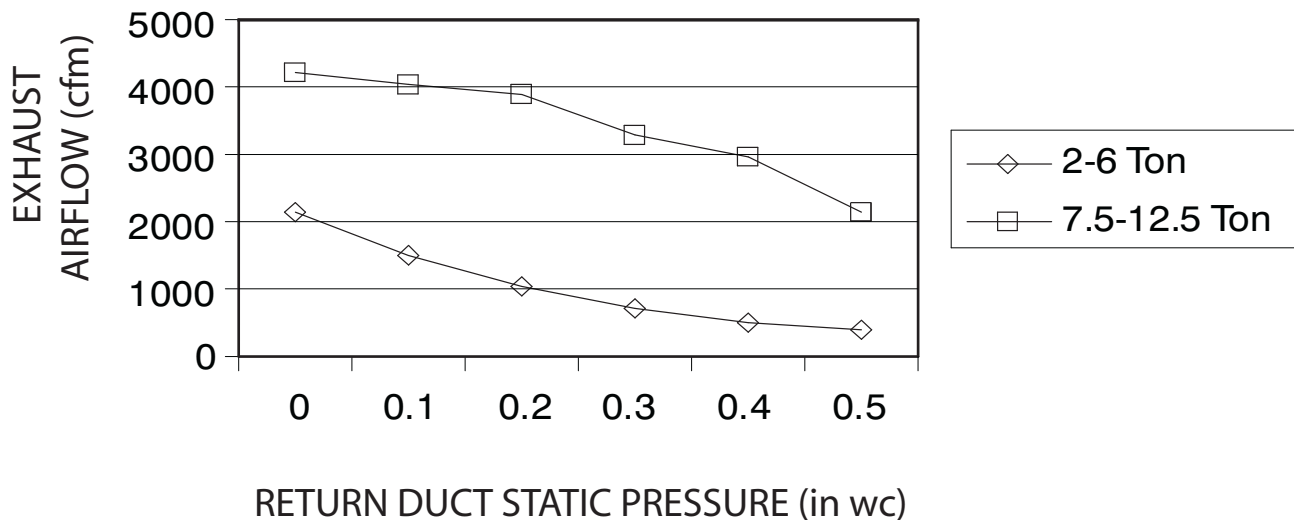

Fig. 10 - Power Exhaust Performance
9. Test power exhaust operation by setting the power exhaust set point on the EconomiSer controller to 0%. Power exhaust performance is shown in Fig. 10.